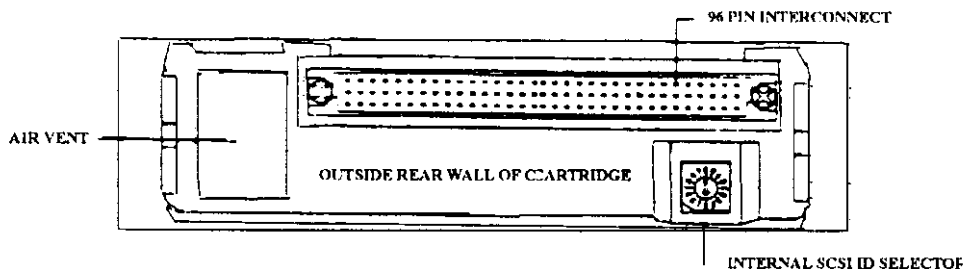

Figure 2.6 Back View of Wide SCSI Cartridge
- Figure 2.6 (below) shows the location of the internal ID selector. You